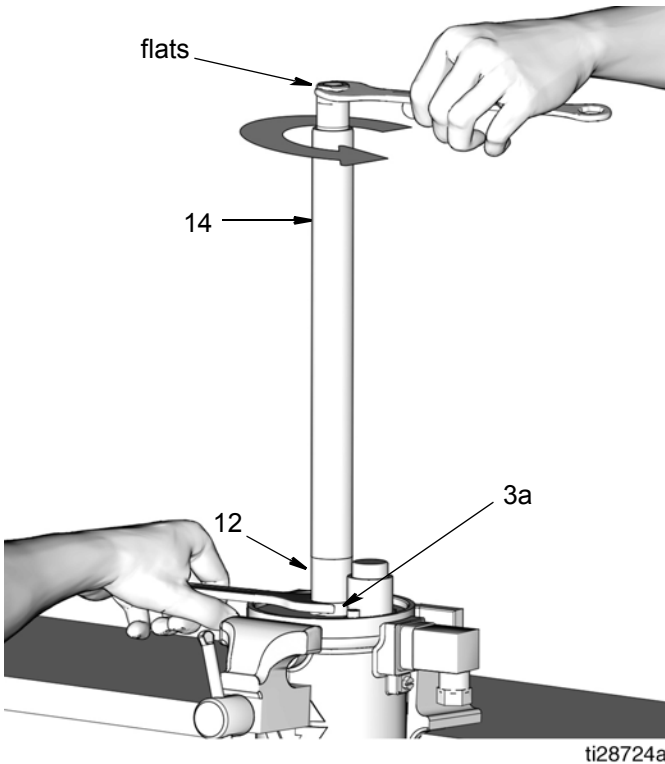

FIG. 16
12. Outlet Tube O-Ring (13) and Pump Cylinder O-Ring (9)
Securely hold nut (3a) [located on the bottom of the pump cylinder (12)] in place with a wrench. Secure a second wrench on the flats of the outlet tube (14). Turn outlet tube counter-clockwise to loosen and remove it from the pump cylinder (12) (FIG. 16).